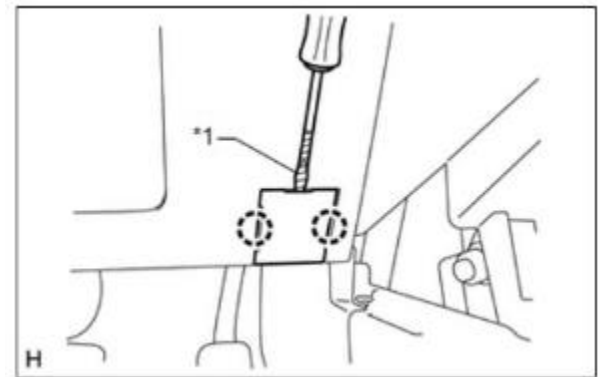

Figure 14
- 21. Remove Lower Instrument Panel Finish Panel Sub-assembly (Figure 14).